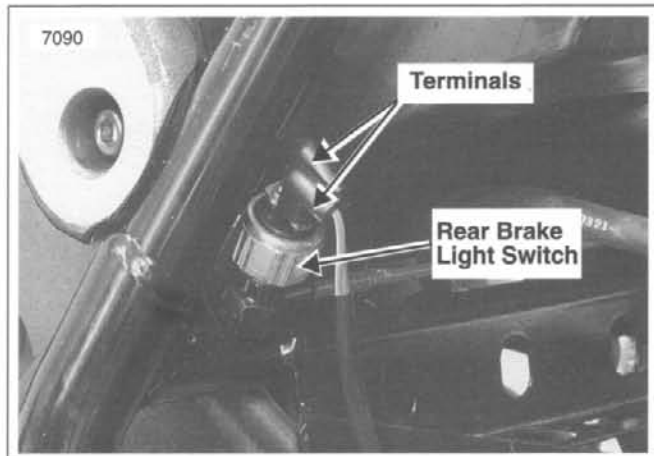

Figure 2-90. Rear Brake Light Switch
8. See Figure 2-90. Disconnect two wires from rear brake light switch.
14. See Figure 2-90. Remove rear brake light switch from brake line.
13. See Figure 2-90. Connect rear brake light switch wires to rear brake light switch.